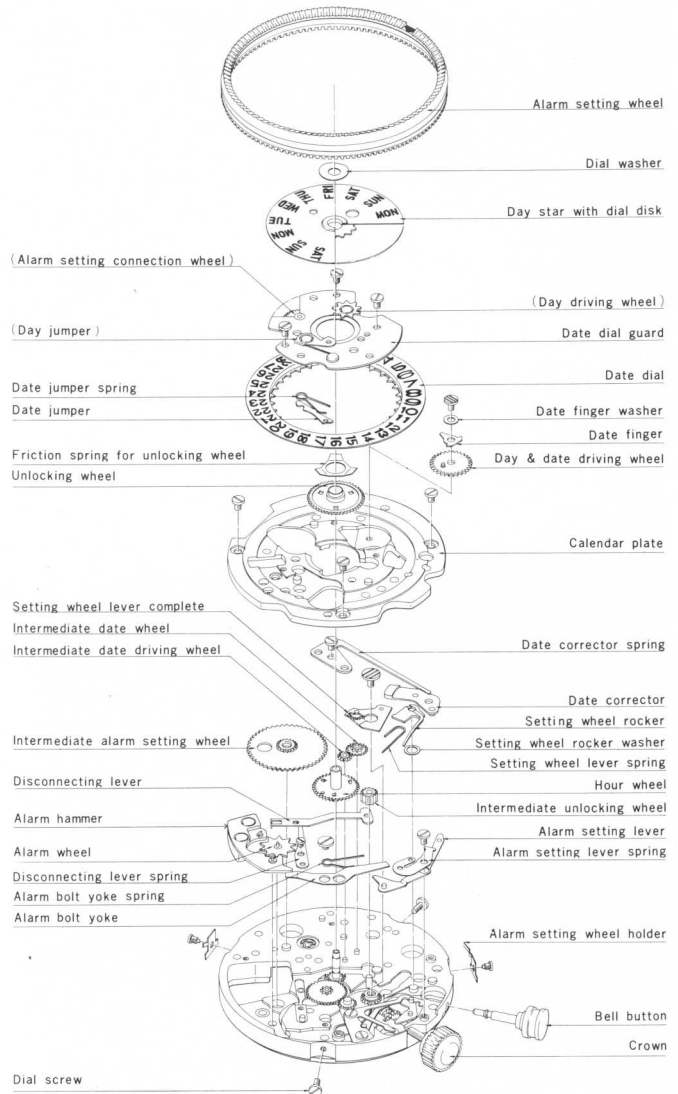

Fig. 6
**4-1. Exploded view of calendar and bell alarm mechanism (Fig. 6)**